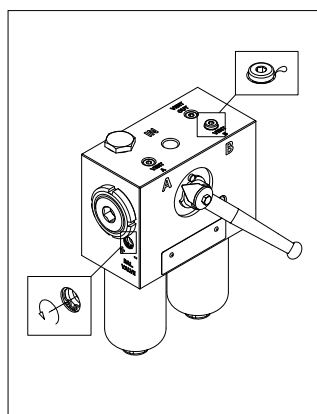

fig. 15
- (Fig. 15) Open the balancing valve by unscrewing it towards the “-“ sign. Bleed the air from the system through the breather plug loose by a maximum of one turn, until the operating fluid starts oozing